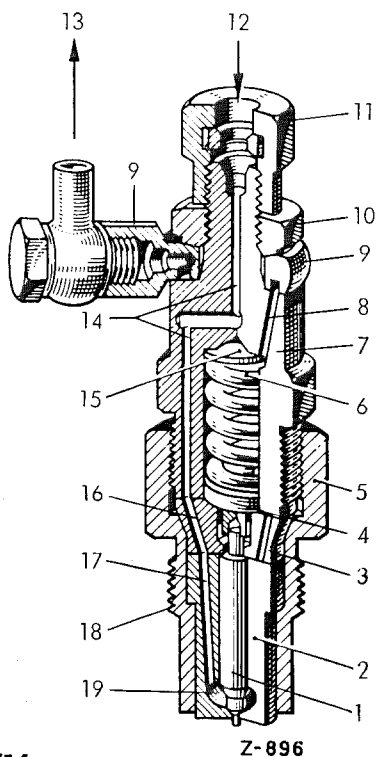

Figure 07-4/20
The injection nozzle has the task of injecting the fuel delivered by the injection pump at a high pressure in the most favorable spray pattern and at the proper moment into the combustion chamber and distribute it in such a way, that a good combustible mixture is produced in the combustion chamber. The nozzle is controlled by the fuel pressure. During the discharge stroke of the plunger the pressure impulse is transferred through the injection lines, the pressure passage (14) in the nozzle holder, the annular groove and the inlet holes (16) of the nozzle holder insert (3), the annular groove and the pressure passages (17) in the nozzle head (2), until it reaches the pressure chamber (19) in the injection nozzle (see Figure 07-4/20). If the discharge pressure becomes stronger than the tension force of the tension spring (6), the nozzle needle is lifted off its seat and the fuel is injected through the injection hole into the pre-combustion chamber and the main combustion chamber to produce a combustible mixture there.